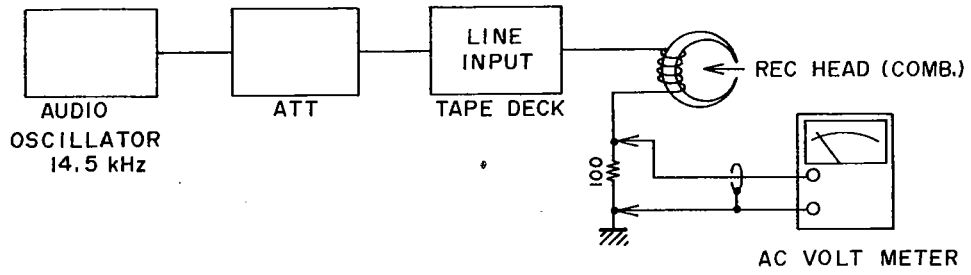

Fig. 11 Instruments Connections
4. If a flat characteristic cannot be obtained from 1,000 Hz to 10,000 Hz at LH, CrO₂, or Fe-Cr positions, fine adjust at VR5 (LH), VR6 (CrO₂) or VR7 (Fe-Cr) respectively.
7. Stop recording bias oscillator while making Rec Peaking Adjustment (Refer to Figs. 11, 12).